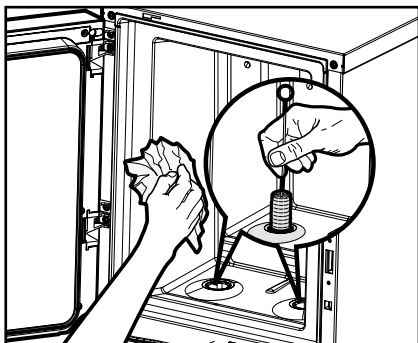

Fig. 25
4. Clean the interior of the cooling compartment with a clean, damp cloth and the doser opening with a brush. (Fig. 25)